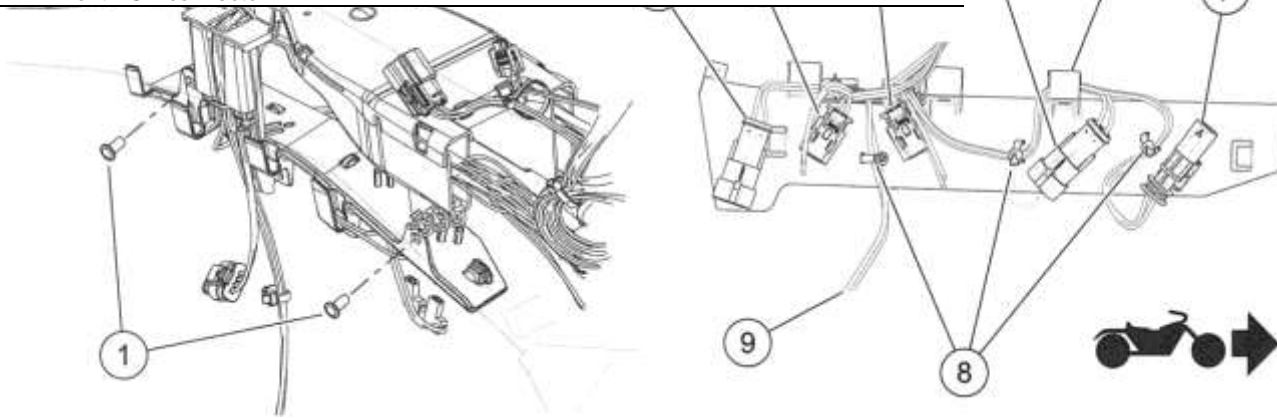

Figure 8-118. Lower Backbone Caddy
1. See Figure 8-118. Disconnect electrical connectors (2, 3, 4, 5, 7).
- a. Remove two plastic rivets (1).
3. Cut cable straps (8).
1. See Figure 8-118. Connect electrical connectors (2, 3, 4, 5, 7).
2. Install new cable straps (8).
- b. Install two plastic rivets (1).
8. Cable strap (3)